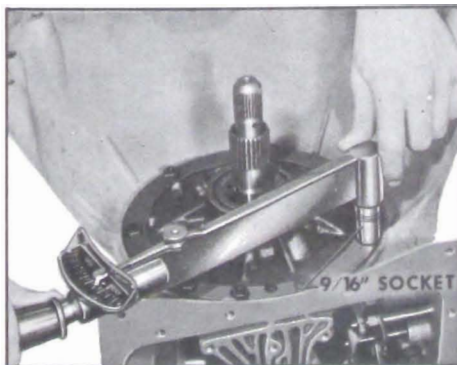

Figure 5-322
6. Torque the eight (8) pump retaining bolts to 16-24 ft. lbs. See Figure 5-322.